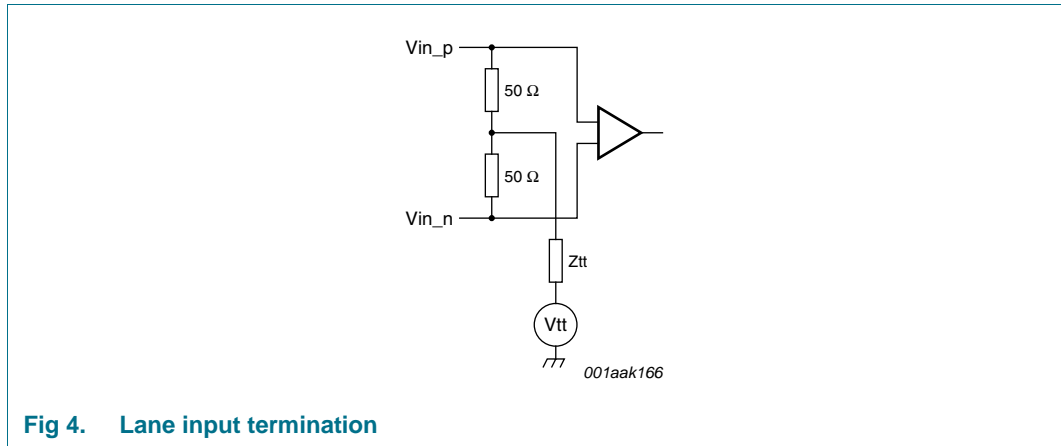

Fig 4. Lane input termination
- [4] Vin_p and Vin_n inputs are differential CML inputs. They are terminated internally to V_{tt} via 50 Ω (see Figure 4).